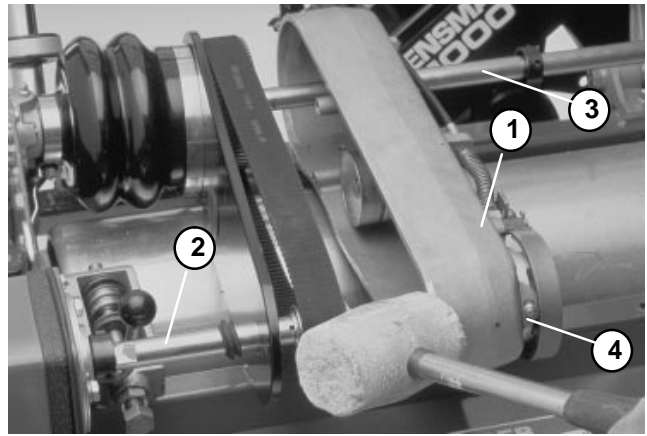

Figure 60
13. Use a rubber hammer to carefully tap the countershaft housing off the power shaft. Alternate the hammer between the long axle and the bearing housing end of the counter shaft housing to prevent damage to the bearings(Fig. 60).
4. Use a rubber hammer to carefully tap the countershaft housing onto the power shaft. Alternate the hammer between the long axle and the bearing housing end of the counter shaft housing to prevent damage to the bearings (Fig. 60).